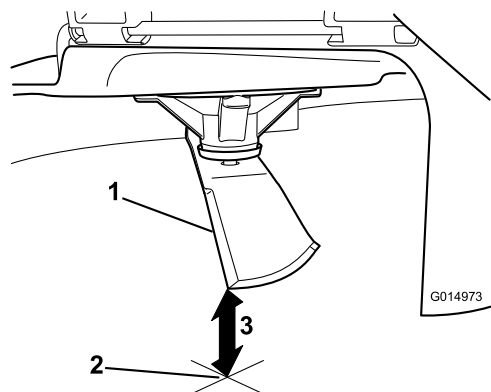

Figure 76
5. Measure from the tip of the blade to the flat surface (Figure 76).